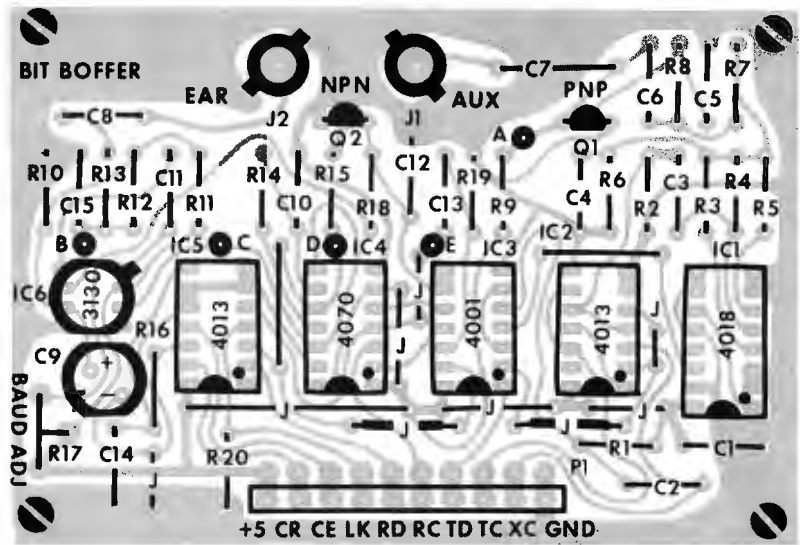

Figure 8: Parts placement overlay for the BIT BOFFER circuit board.
*Photo 1: The assembled BIT BOFFER built from the board layout of figure 7. The parts can be identified using the placement diagram of figure 8.*